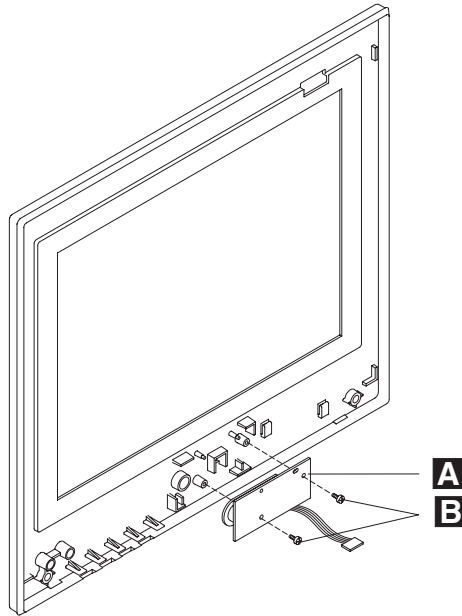

Figure 68. Removing the presence sensor
4. Remove the two screws **B** securing the presence sensor **A** from the bottom center of the back side of the touch screen, as shown in Figure 68. If replacing the cable is necessary, remove the cable from the front cover by cutting the tie-wraps.